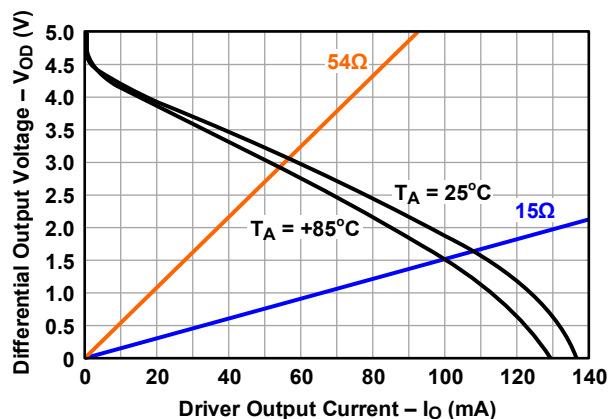

Figure 11. Driver Differential Output Voltage vs Output Current
3. See Figure 11 for more information and for performance over temperature.